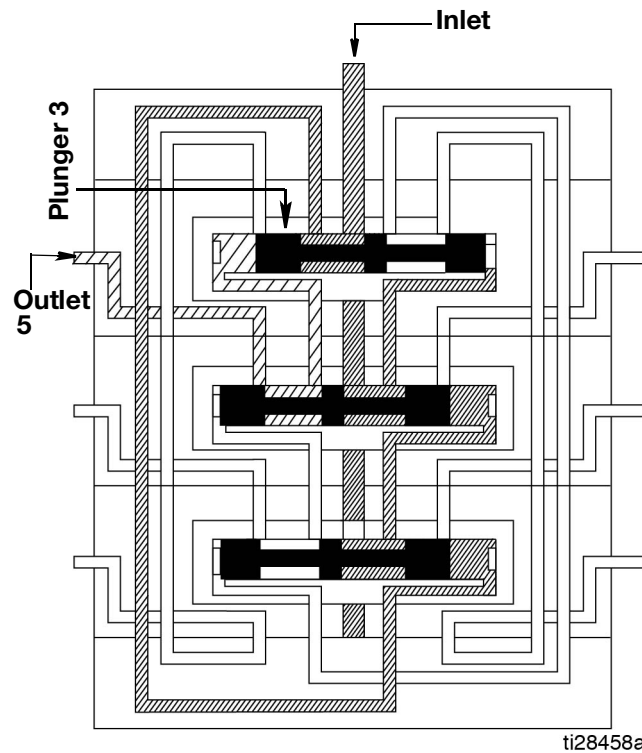

FIG. 15
2. Plunger 3 opens, delivering lubricant to Outlet 5 (FIG. 15).